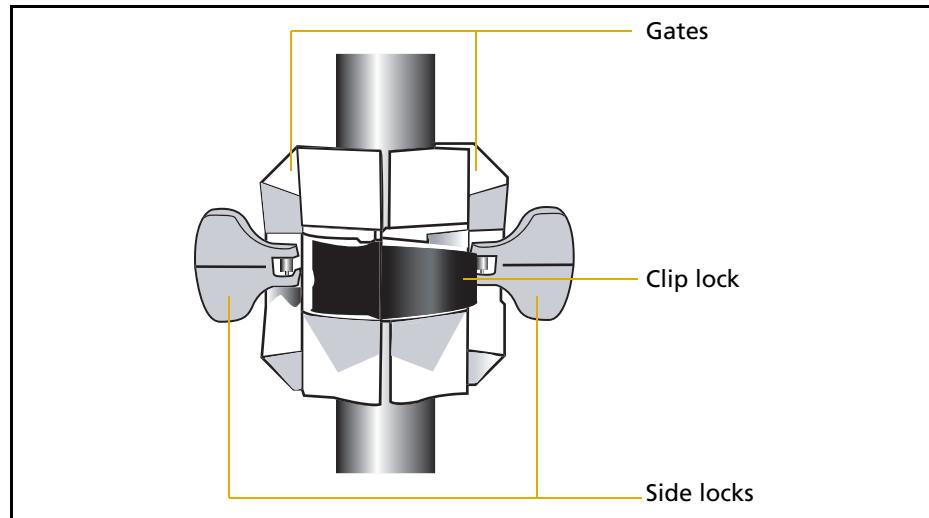

Figure 3.9 Trimble R7 GPS receiver bracket
- c. Holding the receiver in the bracket, pull the side locks back to their original positions, as shown in Figure 3.9.